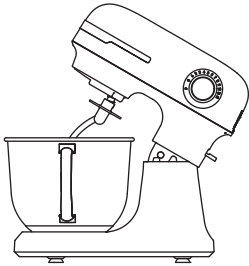
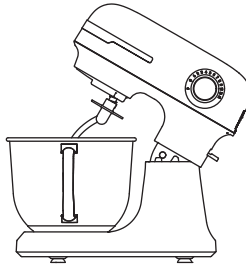
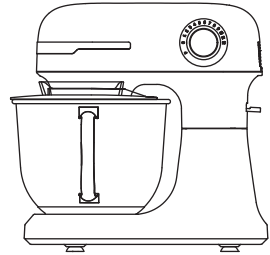

Fig.5
Fig.6
Fig.7
- 3.Fix the dough hook (1) or the egg whisk (11) or the mixing blade (8) on the blade connector and rotate the blade connector anticlockwise until it engages firmly. Fig.5 Fig.6
4. Then Press down the unlock lever(4) and press the upper housing(3) downwards with one hand. Fig.6 Fig.7
5. Insert the power plug in the power socket and speed switch (6) in the "P" setting for short usage or set the operating switch to the desired position 1-12 for longer usage.
6. Turn the speed switch (6) in the "0" setting.
7. Lift up the upper housing cover (3) by the lifting handle.
8. You can now remove the mixing bowl (10) from the device plate.